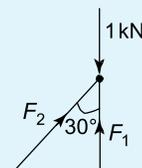

Figure 6.43
2. The value of F_1 in Figure 6.43 is:
3. The value of F_2 in Figure 6.43 is: